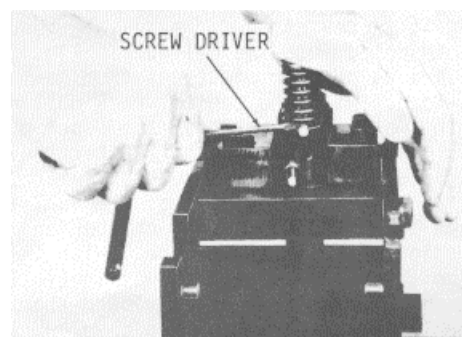
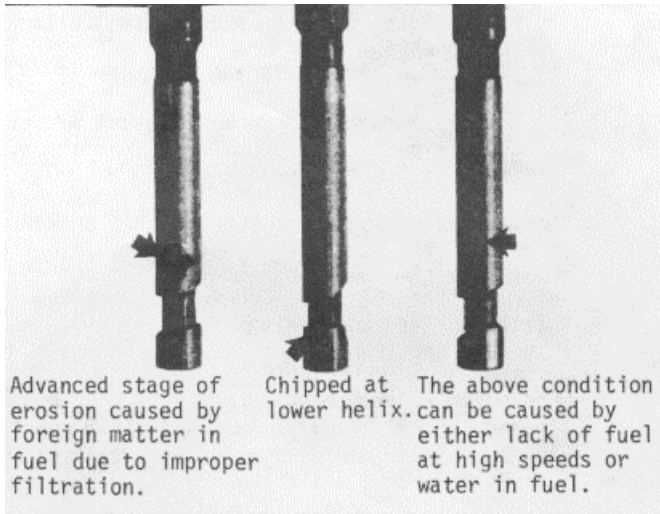

Fig. 9 Removing Injector Follower Stop Pin
Fig. 10 Unusable Injector Plungers
- (1) Support the injector, right side up, in holding fixture J 22396.
- (2) Compress the follower spring. Then raise the spring above the stop pin with a screw driver and withdraw the pin (Fig. 9). Allow the spring to rise gradually.
- (3) Remove the injector from the holding fixture. Turn the injector upside down, to prevent the entry of dirt, and catch the spring and plunger as they drop out.
- (4) Inspect the plunger. If the plunger is shipped (Fig. 10), replace the plunger and bushing assembly.
- (5) Re-install the plunger, follower and spring.